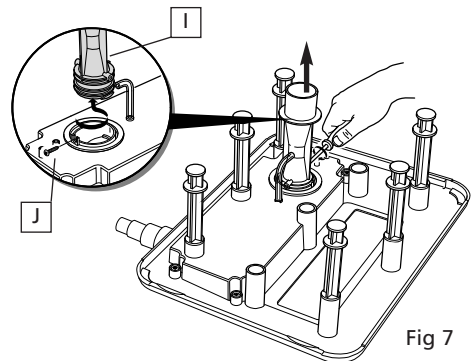

Fig 7
7.4 The venturi outlet (see 'I' Fig 7) from the UVC chamber can be removed for cleaning if required. To remove, unscrew the venturi locking screw (see 'J' Fig 7) Twist and unlock the bayonet and lift the venturi away. To replace, repeat the